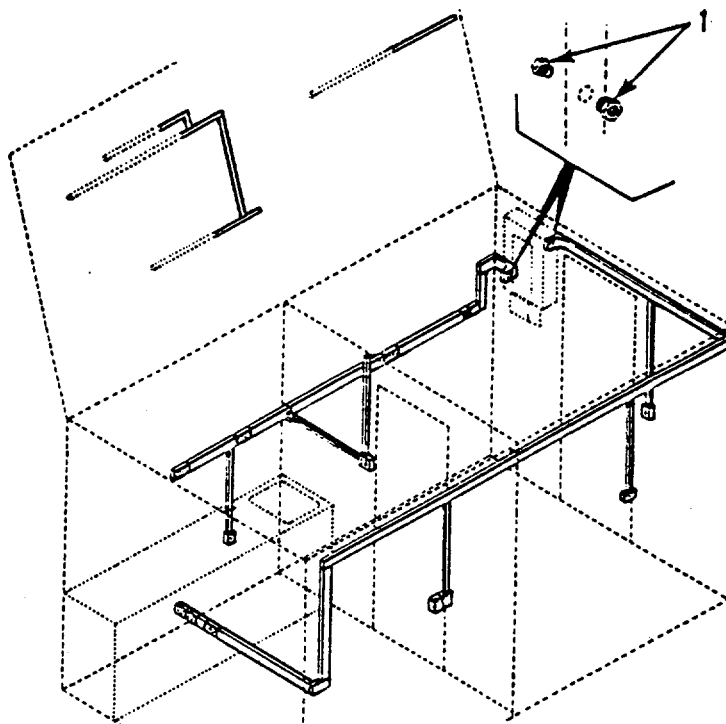
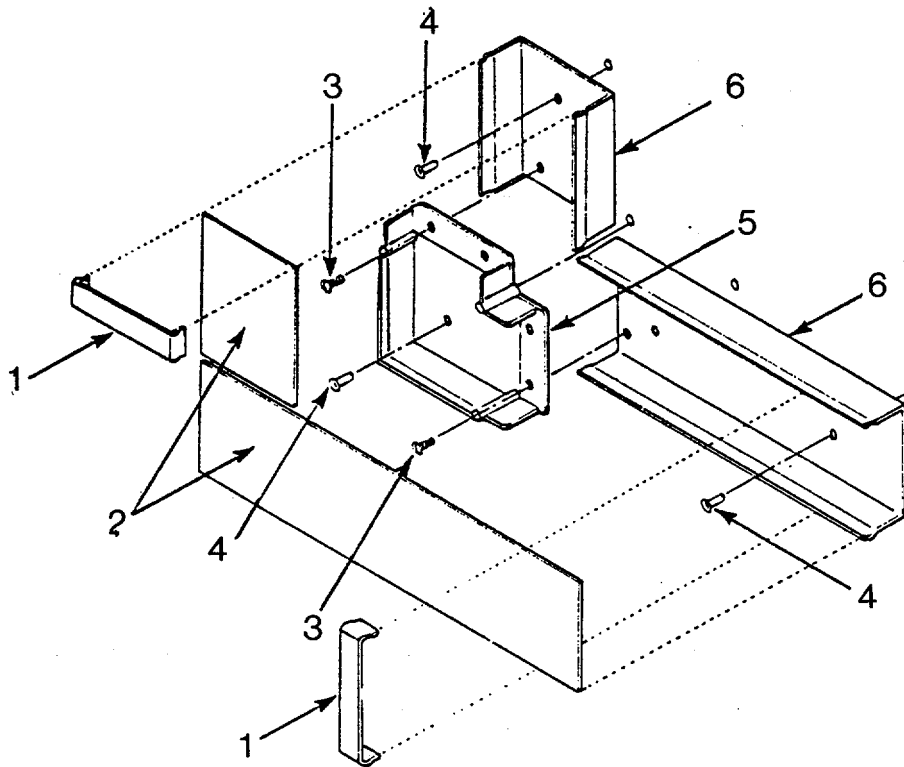
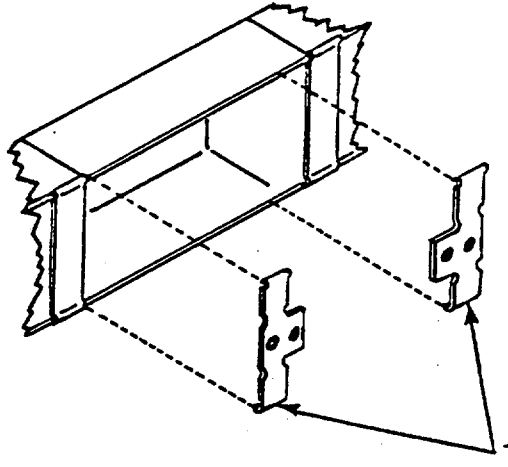

Figure 5-5. Conduit Bushings
Figure 5-6. Rigid Conduit Assembly
Figure 5-7. Receptacle Clips
a. Inspect. (See Figure 5-5.)
- (1) Inspect conduit channels, channel covers and clips on shelter walls and ceiling for bends, breaks and sharp edges.
- (2) Inspect conduit channels, channel covers and clips for corrosion and security of installation.
(a) Remove conduit bushings (1, Figure 5-5.)
- (b) Remove clips (1, Figure 5-6) and cover (2).
- (d) Remove screws (3) and rivets (4).
- (e) Remove corner bracket (5) and channel (6).
- (f) Remove receptacle clips (1, figure 5-7).
- (g) Install and secure conduit channel (6, Figure 5-6) with rivets (4).
- (h) Install and secure corner bracket (5) with screws (3) and rivets (4).
- (i) Install receptacle clips (1, Figure 5-7), cover (2, Figure 5-6), clips (1) and bushing (1, Figure 5-5).